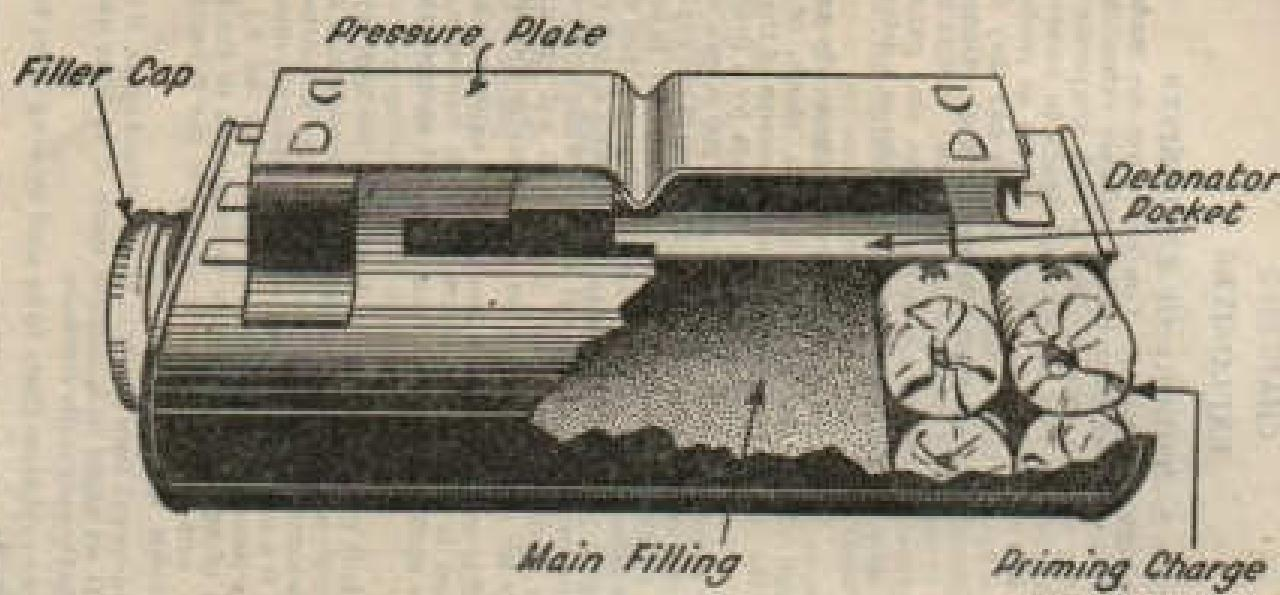

Fig. 1. 75 grenade Mark 1, sectional view
**1. No. 75 grenade (See Fig. 1)**
(a) *Description.*—This is a screw cap metal container filled with 1½ lb of HE with a special primer inside the container at the opposite end to the screw cap (see Fig. 1). On top of the container is a pressure plate with special pockets underneath for the detonator and igniter sets used when the grenade is employed as an anti-tank missile (see Military Training Pamphlet 40, Part I). Twelve grenades are packed in a tin box with 24 detonator and igniter assemblies.